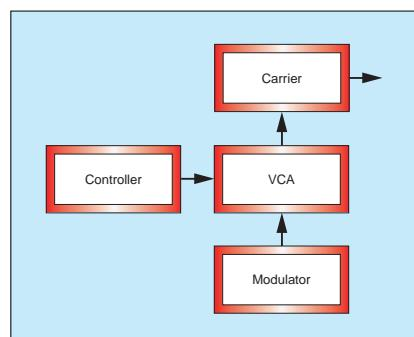

Figure 8: A simple analogue FM (vibrato) patch.
▶ (see Figure 8). Don't forget that in this case, the Modulator frequency w_m is very much lower than the Carrier frequency w_c .